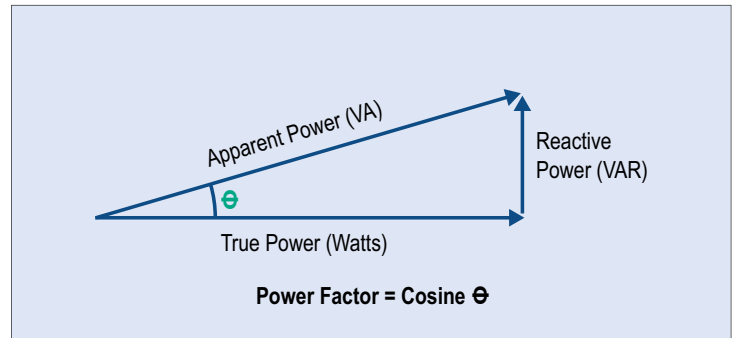

Figure 2 - The Power Triangle.
To provide testing under the broadest range of loading conditions, the 9430 Load will operate in several Emulation Modes. Constant Current (CC) Mode provides current to be drawn constantly, making it suitable for linear, non-linear and regulation loading. Constant Resistance (CR) Mode allows the load to emulate a power resistor with a unity power factor. Constant Power (CP) Mode emulates a load such as a switching power supply. Constant Apparent Power (CS) Mode expressed as VA, is a vector quantity where there is both real power and reactive power (Fig. 2). Constant RL (CRL) Mode emulates a resistive load with an inductive component such as a motor.